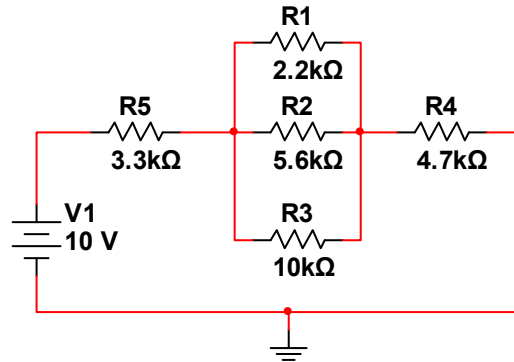

Figure 3 – Prelab circuit.
1. Complete the construction of the circuit from the pre-lab in Fig. 3 (repeated below) by adding the voltage source (provided from your myDAQ).